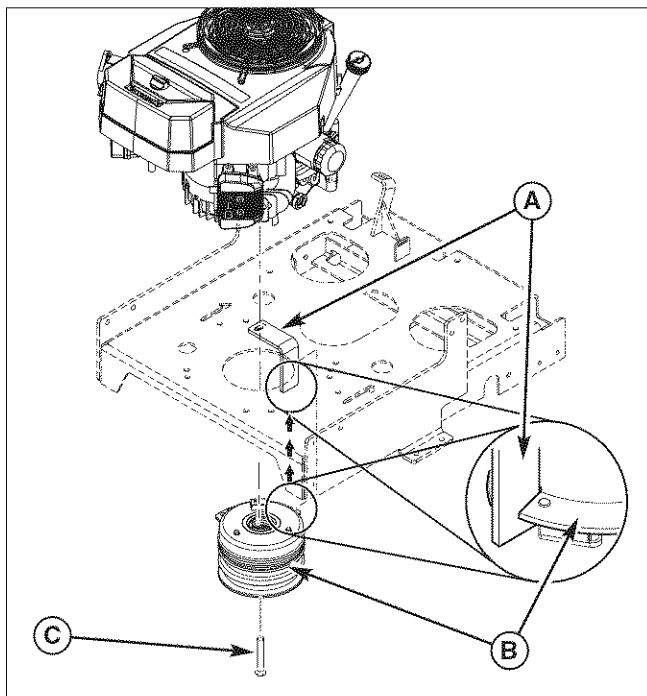

Figure 37. Remove the PTO Clutch
3. Loosen and remove the crankshaft bolt (C, Figure 37) and the PTO clutch (B) from the engine crankshaft.
NOTE: Make sure that the slot in the PTO clutch lines up with the PTO clutch mounting tab (A, Figure 37) underneath the engine deck.